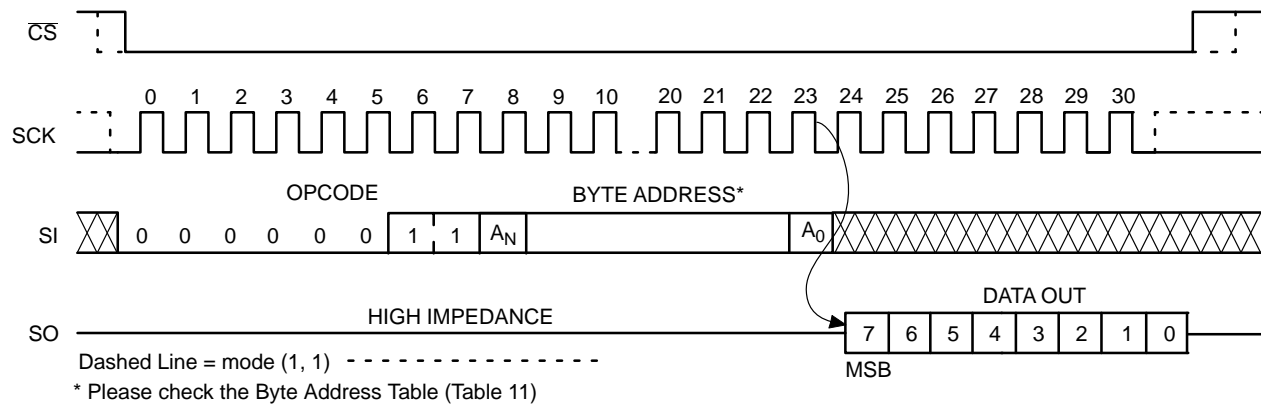

Figure 9. READ Timing
After receiving the last address bit, the CAV25512H will respond by shifting out data on the SO pin (as shown in Figure 9). Sequentially stored data can be read out by simply continuing to run the clock. The internal address pointer is automatically incremented to the next higher address as data is shifted out. After reaching the highest memory address, the address counter “rolls over” to the lowest memory address, and the read cycle can be continued indefinitely. The read operation is terminated by taking \overline{CS} high.
Reading the additional 128-byte Identification Page (IP) is achieved using the same Read command sequence as used for Read from main memory array (Figure 9). **The IPL bit from the Status Register must be set (IPL = 1) before attempting to read from the IP.** The [A6:A0] are the address significant bits that point to the data byte shifted out on the